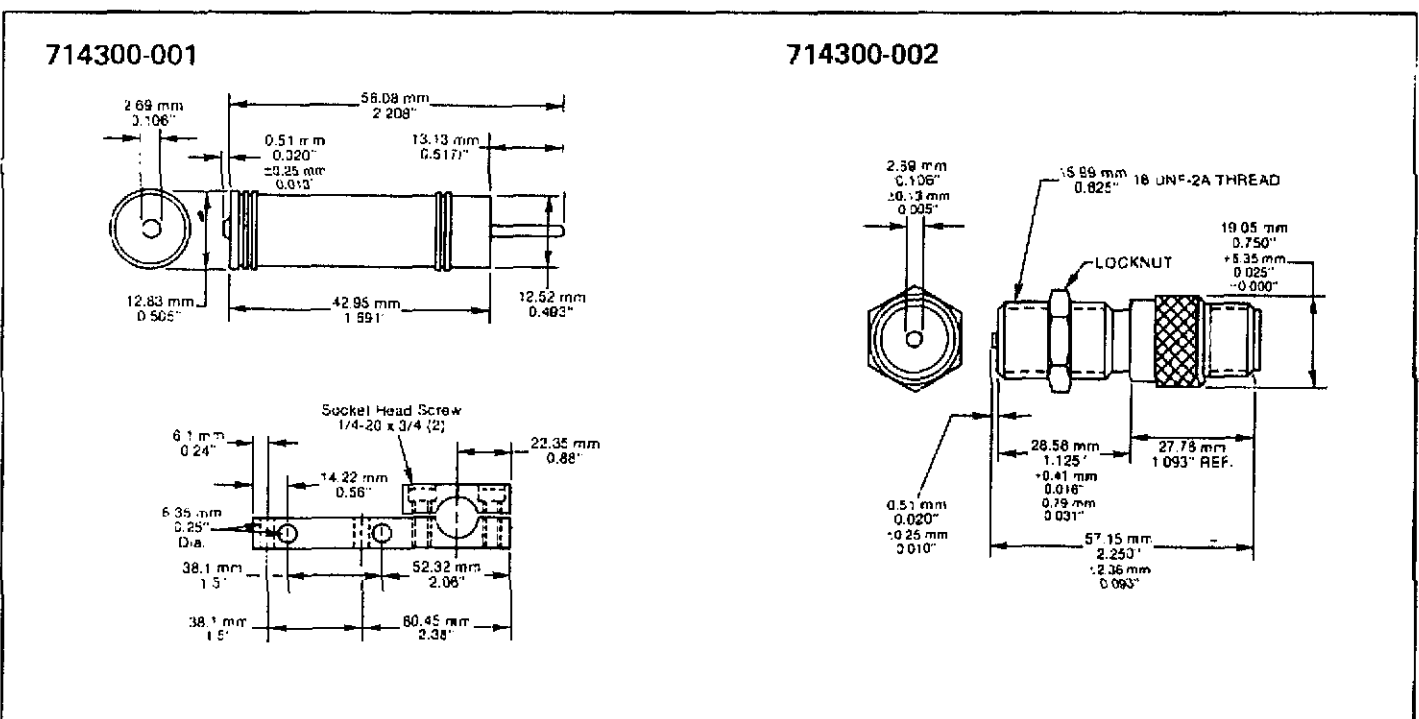

Figure 1. Mounting Dimensions.
B. MOUNTING. The Series 7143 may be mounted in any attitude that will permit the proper spacing between the tip and the standard gear. See Figure 1 for appropriate mounting dimensions and Paragraph C for positioning instructions.